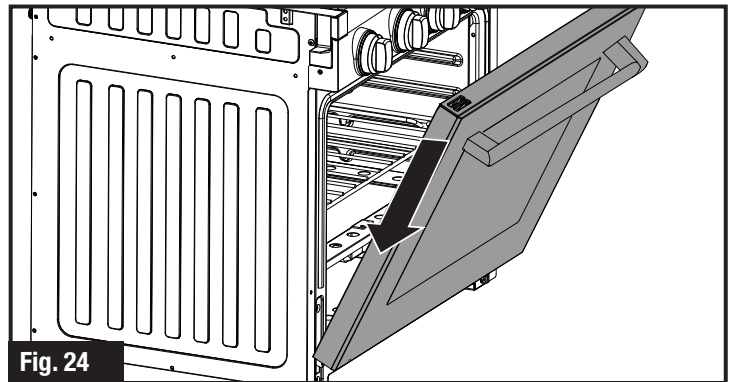
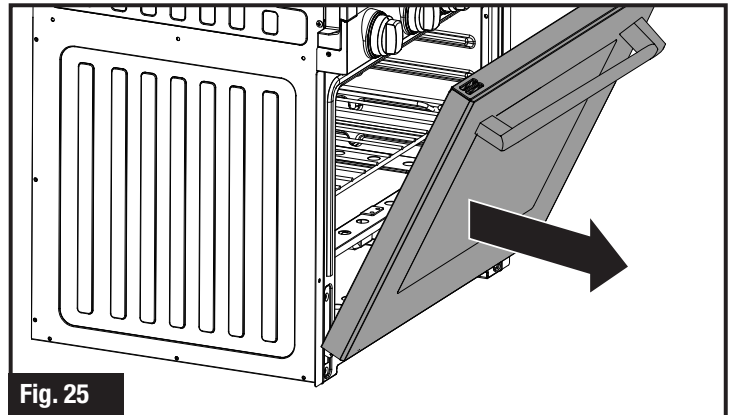

Fig. 24
Fig. 25
5. Holding the door firmly on both sides and using both hands, pull the door straight out of the hinge slots. (Fig. 24, Fig. 25 and Fig. 26) Hold firmly, the door is heavy.